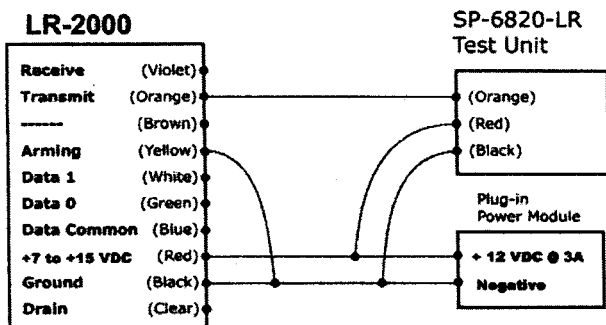

Figure 1. Connections for Pre-Installation Testing
3. Connections: Connect three negatives (black wires) on reader, test unit, and power supply, plus reader's yellow wire, together. Connect reader's orange wire to test unit's orange wire. Connect three positive power lines (red wires) on reader, test unit, and power supply together. See Figure 1 for connections.